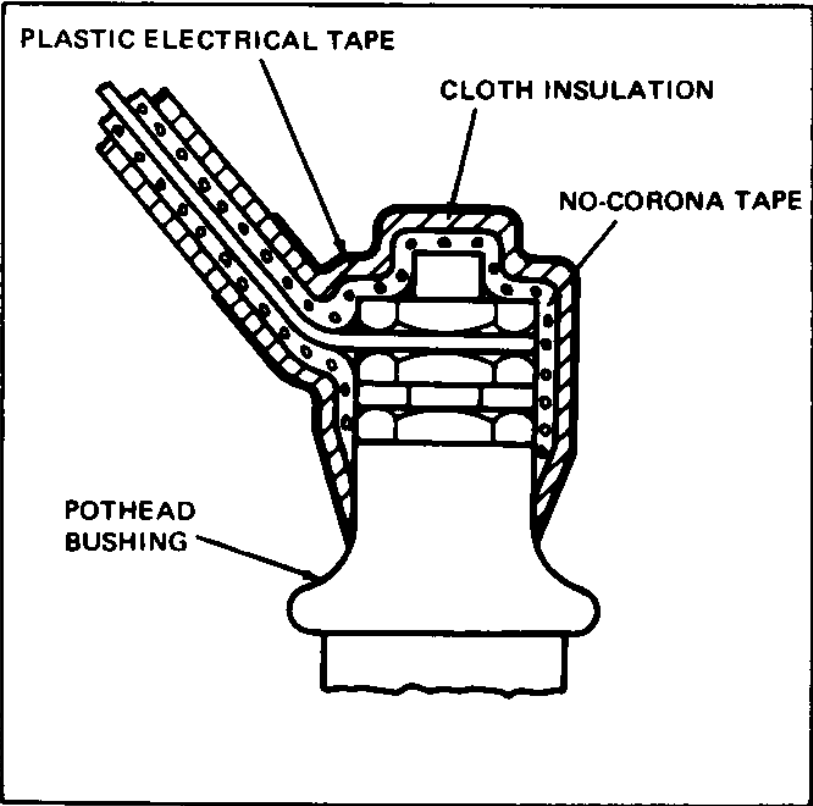

Figure 61. Insulating Pothead Bushing
- 1. Wrap approximately two feet (610 mm) of no-corona tape over bolt heads to form a smooth surface. See Figure 61.